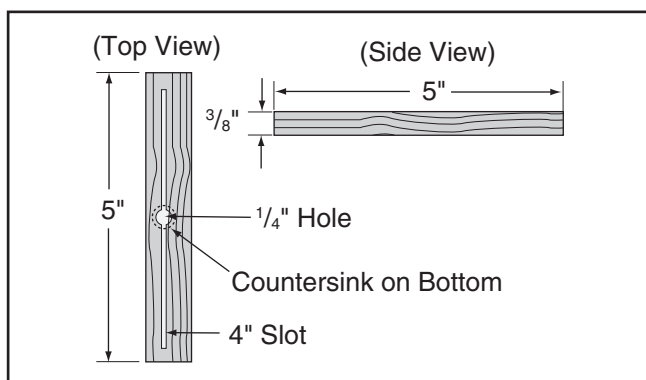

Figure 56. Miter bar pattern.
5. Cut a miter bar approximately 5" long that will fit in table miter slot, as shown in **Figure 56**.